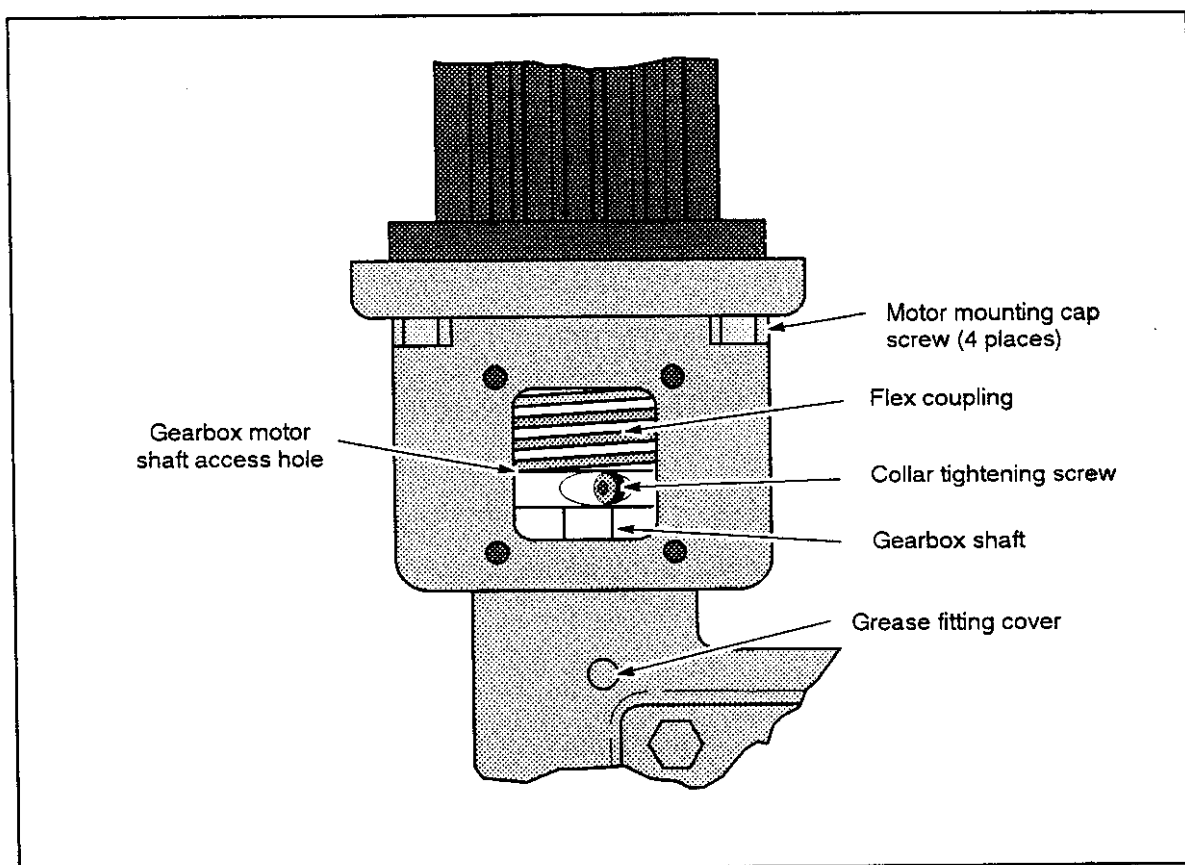

Figure 34. Azimuth Flex Coupling Access.
- d. Remove the four cap screws holding the gearbox motor shaft access cover (see Figure 34).